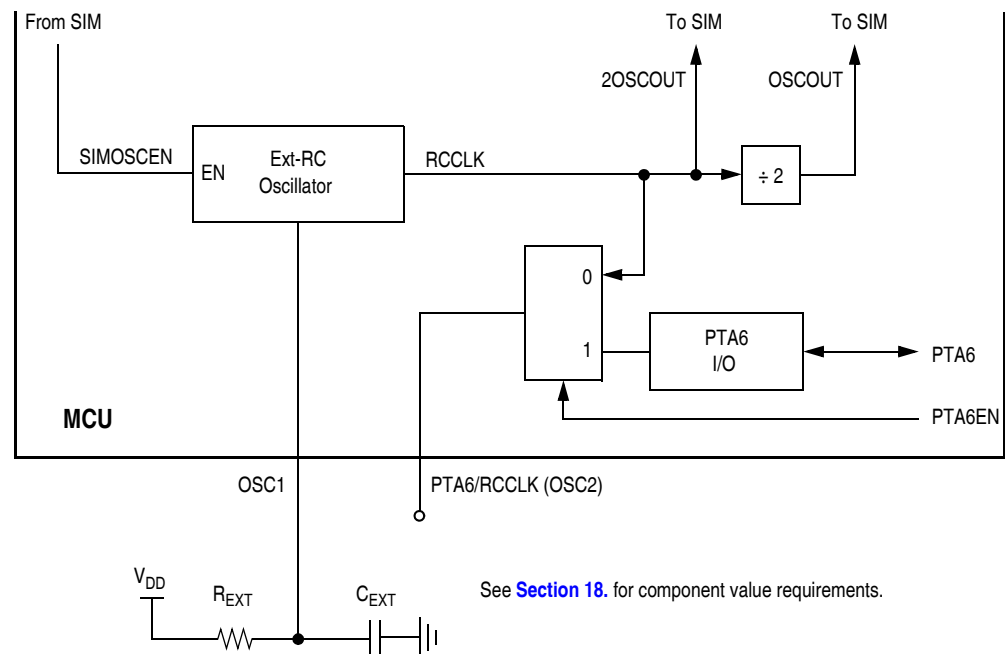

Figure 8-2. RC Oscillator External Connections
RCCLK is the RC oscillator output signal. Its frequency is directly proportional to the time constant of the external R and C. **Figure 8-2** shows only the logical relation of RCCLK to OSC1 and may not represent the actual circuitry.
4. RCCLK is the RC oscillator output, for MC68HRC908xxx. See Figure 8-2.